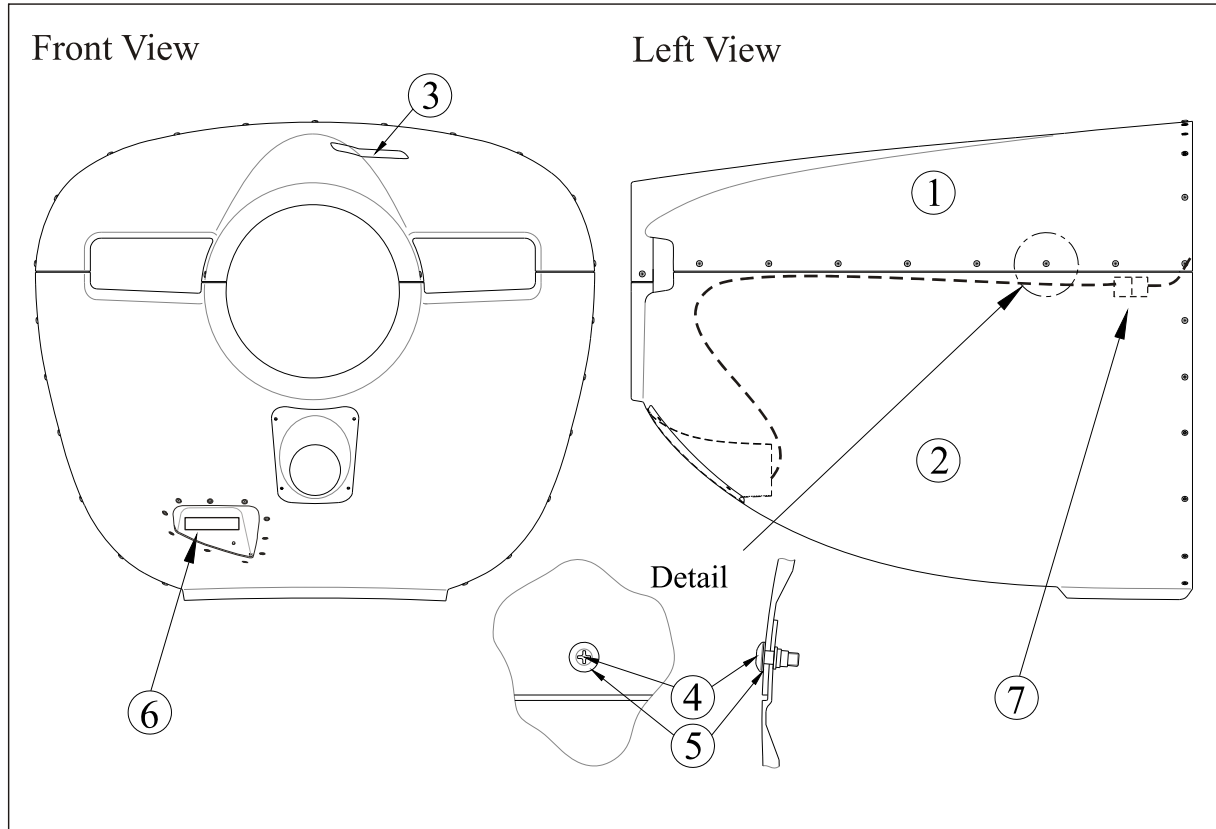

Figure 1
The engine cowling is divided into two parts: The top half (1, Figure 1) and bottom half (2) made of GFRP or CFRP honeycomb sandwich.
- 2 Remove the related truss head screws (4)&(5) of top cowling half (see Figure 1).
- 5 Remove the remaining truss head screws (4)&(5) of the bottom cowling half (see Figure 1).